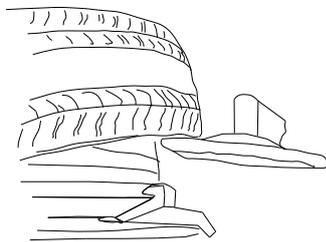

图 12
**a-** Move the mounting head near the edge of the rim, rotate the tire pressing arm to move the tire pressing block above the tire, press the switch handle to depress the tire, and insert the lifting lever in the clearance between the tire and the rim, then hang the bead on the mounting head. (Fig 12、 13)